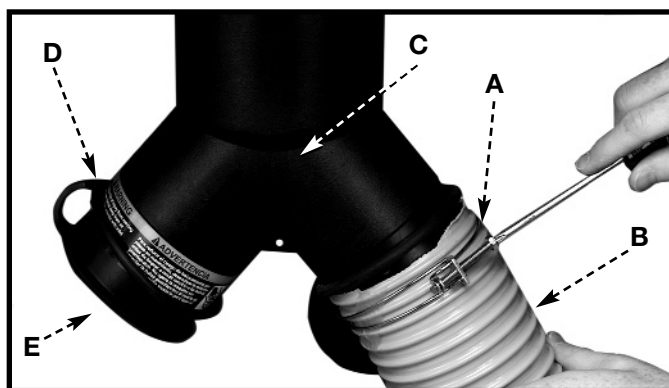

Fig. 13
**NOTE:** Place open end (D) of intake cap rings around and onto ends of each dust intake port before attaching the hose.
To assemble the 4" dust collection hose to the motor and blower assembly, loosely attach hose clamp (A) Fig. 13, around one end of flexible hose (B) and assemble the hose to dust intake port (C). Tighten hose clamp (A). Assemble the remaining clamp to the other end of the flexible hose and to the woodworking machine.
**NOTE:** Do not operate the dust collector with either of the holes in dust intake port (C) Fig. 13 uncovered. To cover a hole not being used by a hose, place the flat intake cap (E) on dust intake port as shown in Fig. 13.